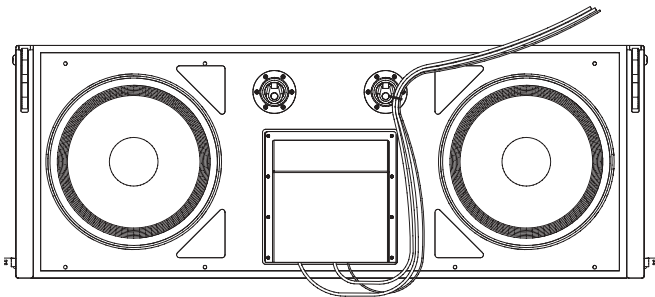

Figure 23. Tying off cables to rings.
Two ring/stud fittings are provided on the back panel of each M3D and M3D-Sub for the purpose of strain relieving all cabling. Insert the signal, data, and AC connections into each loudspeaker as the array is being rigged, swag all cables under the rain hood’s side flaps, and tie them off onto either the left or right rings of the ring/stud fitting as shown in Figure 23. Using the strain reliefs will minimize the chance of cables being damaged during installation of the sound system.
**CAUTION:** The rear ring/stud fittings shown in Figure 23 must be used only to secure system cabling. These fittings are not intended to be used for system rigging or a pull-back motor (pulling the bottom of the array backward to increase downward tilt). The points are mounted on each side of the amplifier area, so as not to interfere with the rain hood and the amplifier fan exhaust area.